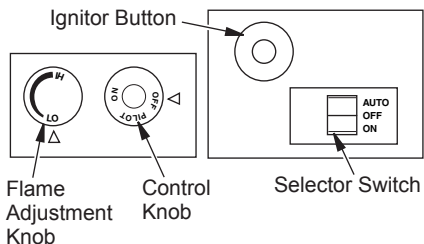

Figure 28 - Control Knob and Ignitor Button Location (Shown as Supplied, No Control Options)
5. Wait five (5) minutes to clear out any gas. Then smell for gas, including near the floor. If you smell gas, STOP! Follow "B" in the safety information in column 1. If you don't smell gas, go to the next step.
6. Press in and turn control knob counterclockwise  to the PILOT position. Press in control knob for five (5) seconds (see Figure 28).